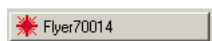

Figure 10-2 Mark button on the *Toolbar*
- 6 On the *Toolbar*, click the *Mark* button (Figure 10-2).